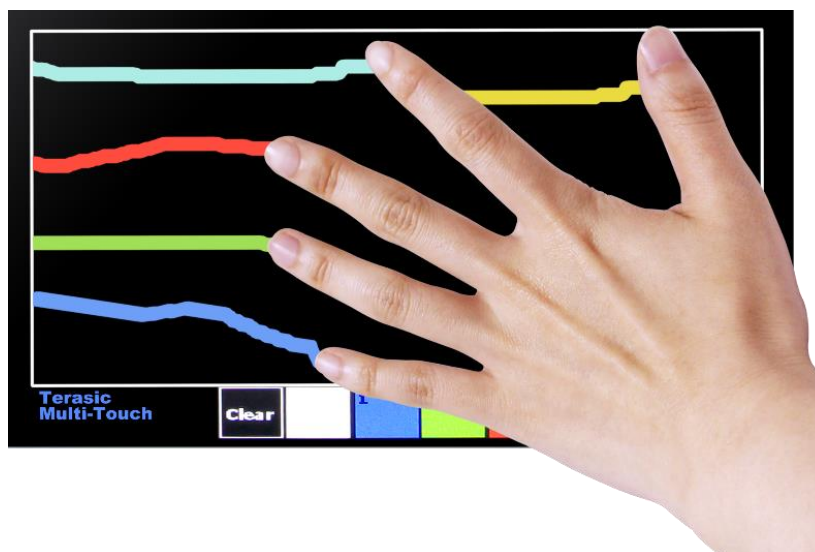
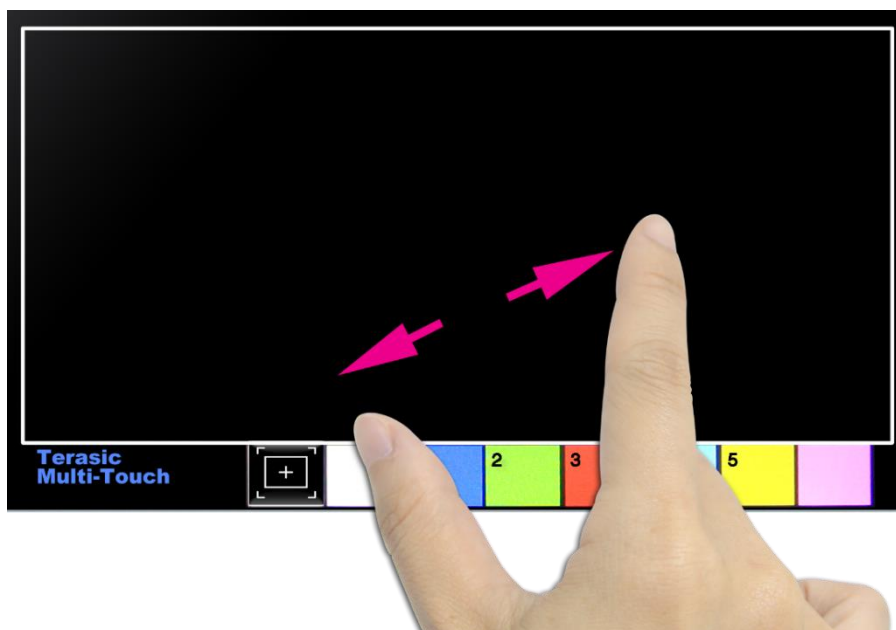

Figure 4-3 Five Point Touch Painting
Figure 4-4 Zoom-In Gesture
- **Figure 4-3** shows the photo when users paint in the canvas area. **Figure 4-4** shows the photo when zoom-in gesture is detected.